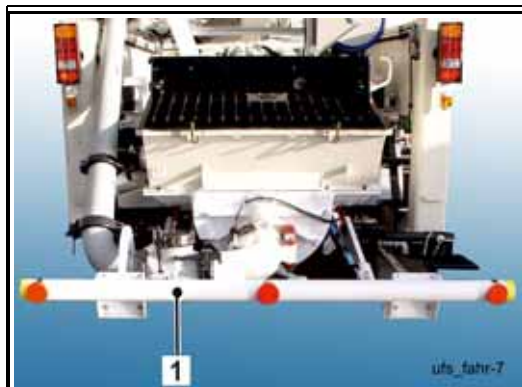

Fig. 56 Underride protection in transport position
The underride protection (1) is in the drive position (**Fig. 56**).